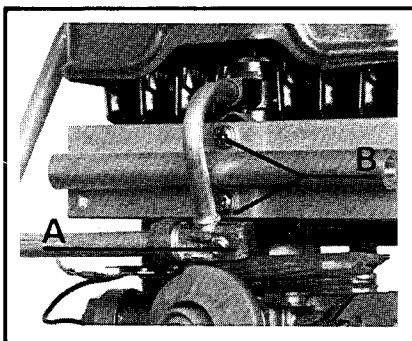

Fig. 2
## 2) Burner (fig. 2).
- Unscrew the pilot tube clamping screw A and remove the clamp and tube (fig. 2).